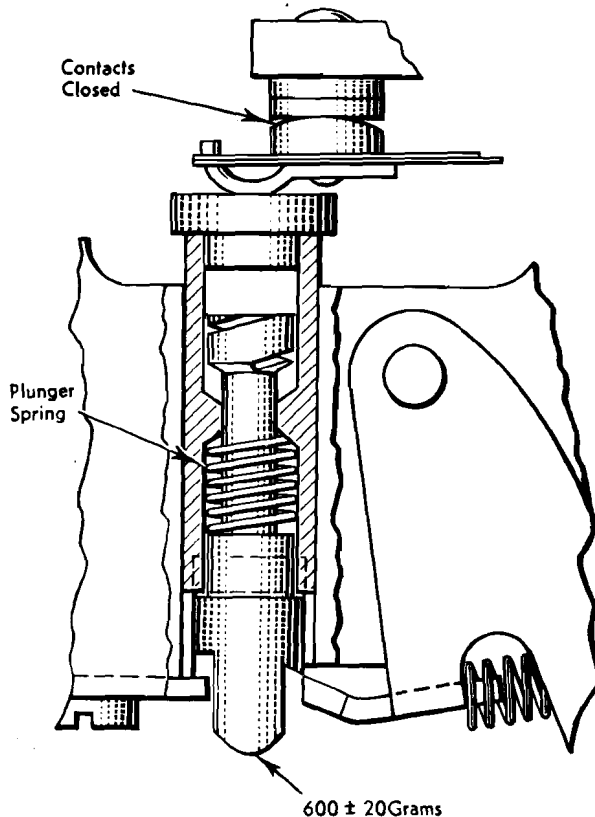

Figure 45. Circuit Breaker Adjustment
5. A pressure of 600 plus or minus 20 grams (approximately 21 oz.) on the contact plunger should be required to compress the plunger spring to the latching point (Figure 45). These values have been tested and found to provide a good operating condition.